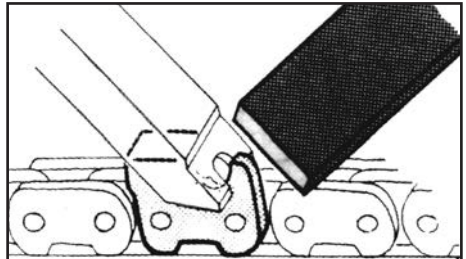

Fig. 21
**NOTE:** Direction of fall (Fig.21-B) is controlled by the notching cut. Before any cuts are made, consider the location of larger branches and natural lean of the tree to determine the way the tree will fall.
6. Finally round off the depth gauge. (Fig.21)